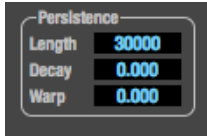

Figure 9-17: The Persistence controls.
The *Persistence* controls (Figure 9-17) affect the appearance of data from when it is first displayed until it disappears from the grid.
*Length* (Figure 9-17) sets the number of recent samples to show on the plot. For example, when Length is set to 10,000, the 10,000 most recent samples are shown.
*Decay* (Figure 9-17 on page 81) determines the brightness or hue of the minimum value. When Decay is zero, the oldest sample is black. When Decay is +1.000, the oldest sample is fully opaque (in Grayscale mode) or red (in Color mode).
*Warp* (Figure 9-17) determines the position of data points after they are first drawn. When warp is zero, data points remain in the same position.